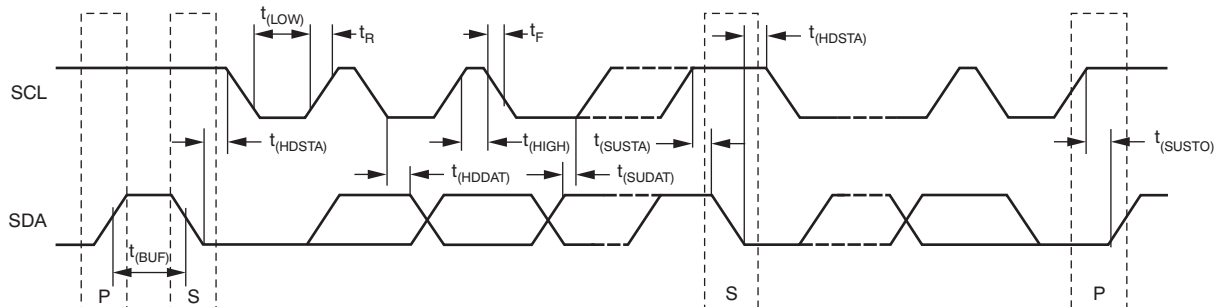

Figure 30. Bus Timing Diagram
When the bus is idle, both the SDA and SCL lines are pulled high by the pullup resistors. The master generates a START condition followed by a valid serial byte containing high-speed (HS) master code 00001XXX. This transmission can be made at 400-kHz data rates. Figure 30 shows a timing diagram for the bus and Table 3 lists the bus timing definitions.